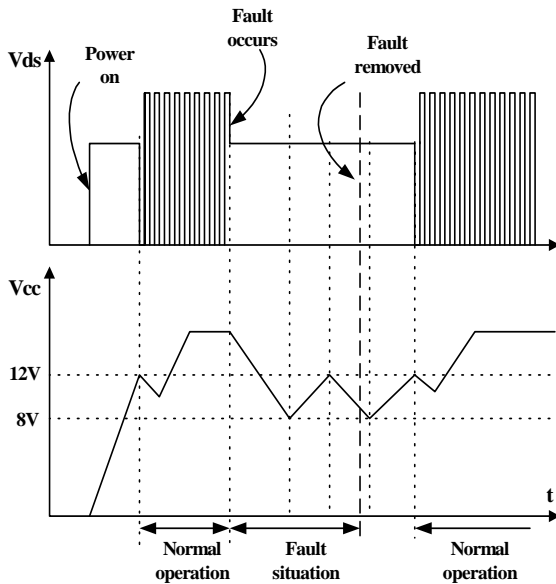

Figure 7. Auto restart operation
3. Protection Circuit : The FSCM0565R has several self protective functions such as over load protection (OLP), over voltage protection (OVP) and thermal shutdown (TSD). Because these protection circuits are fully integrated into the IC without external components, the reliability can be improved without increasing cost. Once the fault condition occurs, switching is terminated and the Sense FET remains off. This causes Vcc to fall. When Vcc reaches the UVLO stop voltage of 8V, the current consumed by FSCM0565R reduces to the startup current (typically 25uA) and the current supplied from the DC link charges the external capacitor (Ca) that is connected to the Vcc pin. When Vcc reaches the start voltage of 12V, FSCM0565R resumes its normal operation. In this manner, the auto-restart can alternately enable and disable the switching of the power Sense FET until the fault condition is eliminated (see Figure 7).